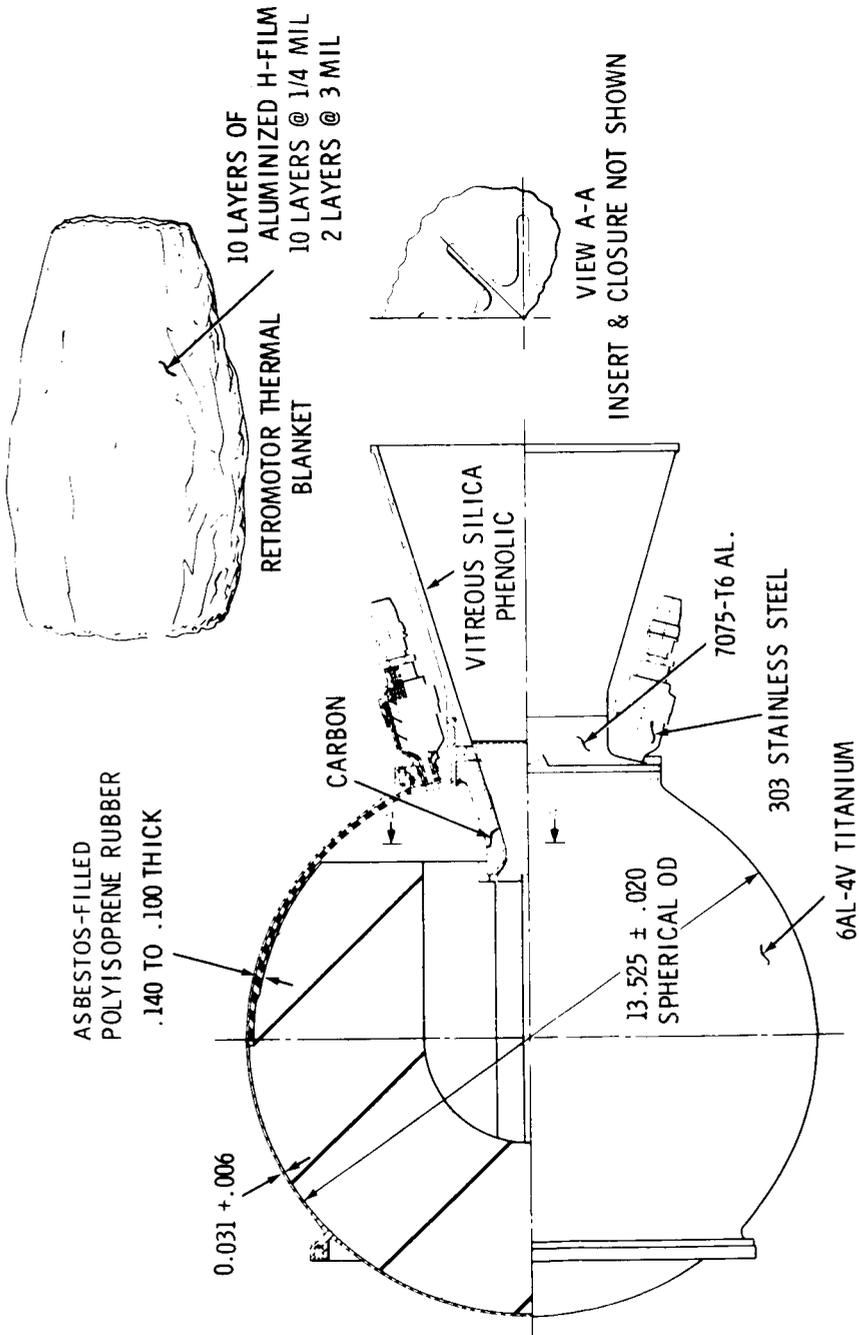

Figure 4. TE-M-458 Retromotor Materials
14. Criteria for flight acceptance of a retromotor is contained in the Thiokol specification number P 20025 (see Appendix B). The motor cross-section is shown in Figure 4.